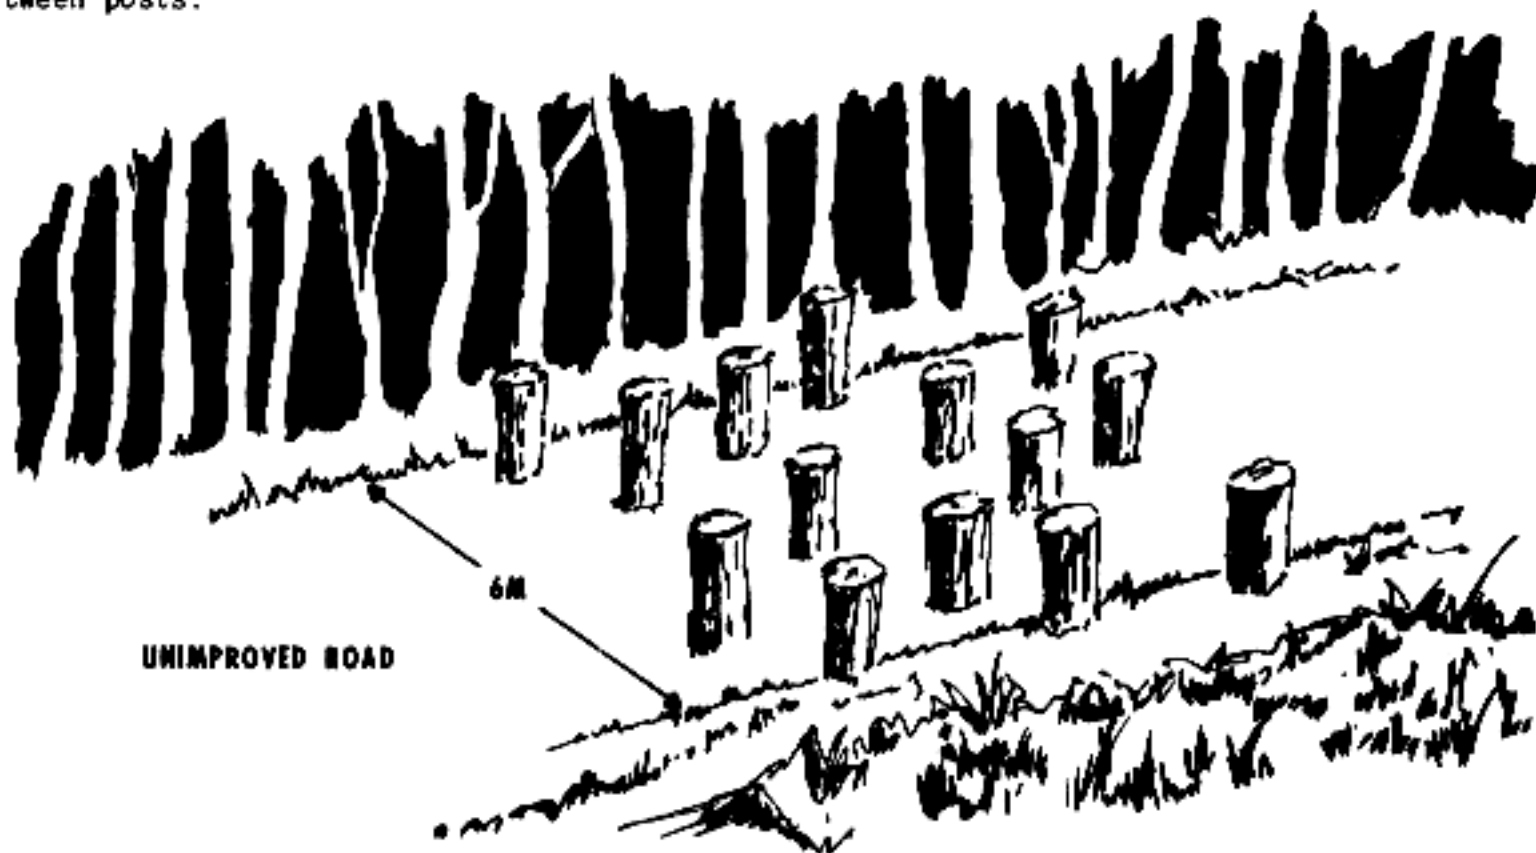

FIGURE 7 LOG POST ROAD BLOCK
b. **Log Posts.** These posts should be hardwood, with a minimum diameter of 40 cm (15 in.). Footings are used under log posts only where the soil has exceptionally poor load-bearing characteristics. Figure 7 depicts a log post obstacle.
(1) All posts are buried 1.5 meters (5 ft) in the ground either vertically or at a slight angle toward the enemy, and project above ground level between 75 and 120 cm (30 and 48 in.). The height should vary from post to post. The minimum acceptable number is not less than four rows. The spacing should be irregular, with at least 1 meter (3.3 ft) and not more than 2 meters (6.6 ft) between posts.